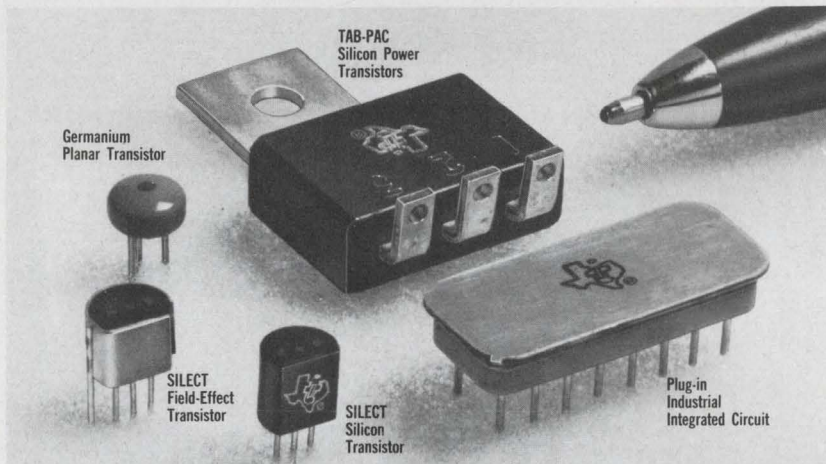
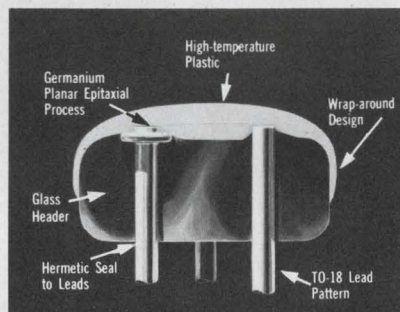

Figure 1. TI offers many economy semiconductors for industrial and commercial applications.
Figure 3. Note ruggedness of TIIXM01-08 plastic encapsulated germanium planar transistors.
Thus, in the case of Fig. 1:
Now A' is still unknown, but it can be found from dc considerations. The choke in Fig. 1 cannot have a dc drop. Therefore the dc component of the waveform in Fig. 3 must be equal to the battery voltage, V_B . In other words:
For all these calculations we assumed that the output circuit is less than critically damped. This means, in the case of Fig. 1, that:
- In the practical circuit we have a low-pass filter section in the collector circuit and not as simple a circuit as the one assumed in Fig. 1 for the calculation.
Low noise (2.8 dB typical at 200 MHz), high gain (28 dB at 100 MHz), excellent forward AGC (>20.5 dB gain reduction through h_{fe} fall-off alone), low feedback capacitance (<1 pF), and low-cost plastic-and-glass package (shown in Figure 3) make these devices first choice for many applications.